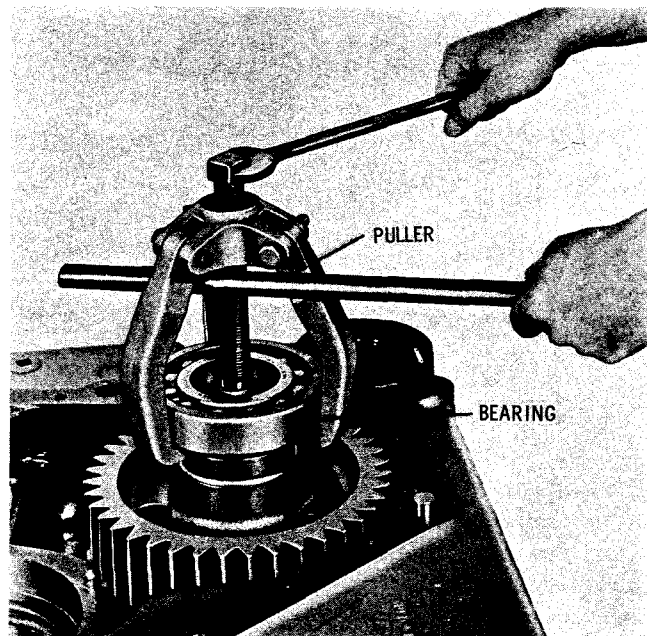

Fig. 5-90. Removing output shaft rear bearing
(13) Using a bearing puller (fig. 5-90), remove the output driven gear bearing from the output shaft.